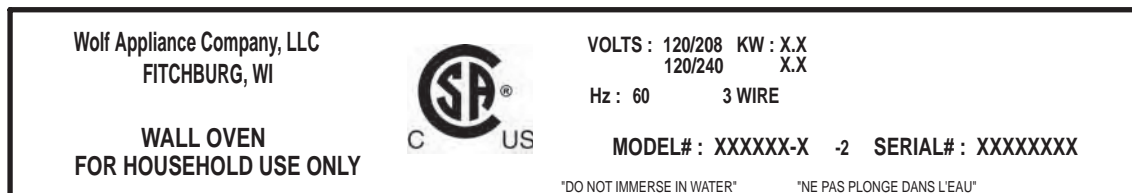

Figure 1-1. Typical Serial Tag Layout
- See Figure 1-1 for serial tag layout.